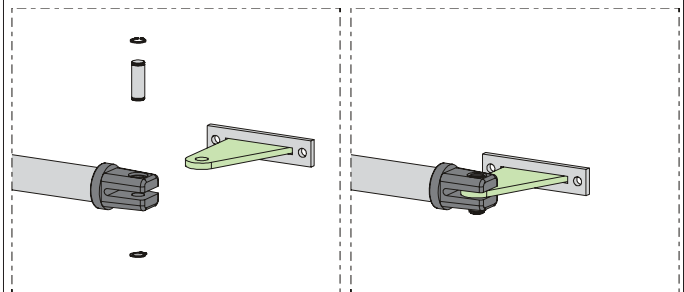

Fig. 10
- 7) Assemble the front bracket as shown in Fig.10.